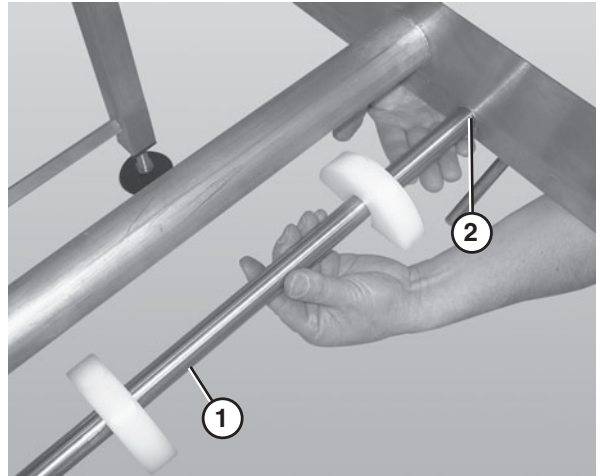

Figure 61
1. Remove the belt returns by pushing up on the return shaft (Figure 61, item 1) and sliding it through the large hole (Figure 61, item 2) in the frame.
2. Lower the opposite end of the return shaft (Figure 61, item 1) and slide it out of the frame.